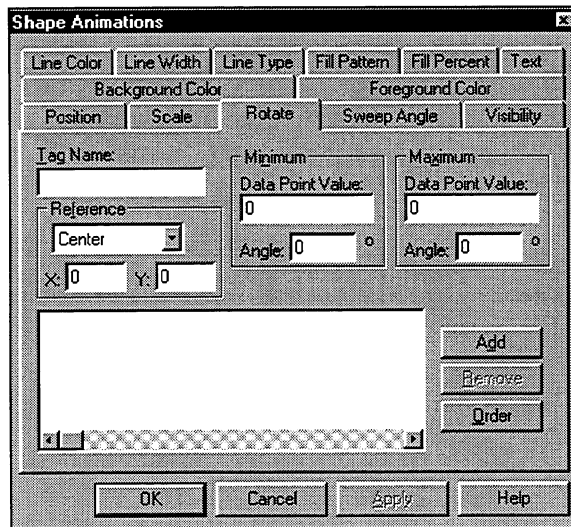

Figure 7-13. Rotate Animation Page
3. Click on the Rotate tab to access the Rotate animation page, as shown in Figure 7-13.